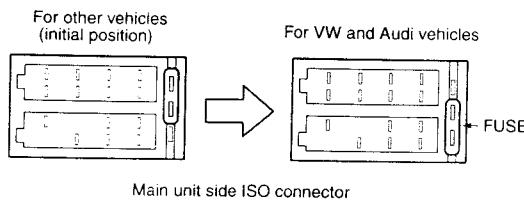

Figure 1
- For VW and Audi vehicles, change the position of fuse installation as shown on the diagram.(Figure 1)